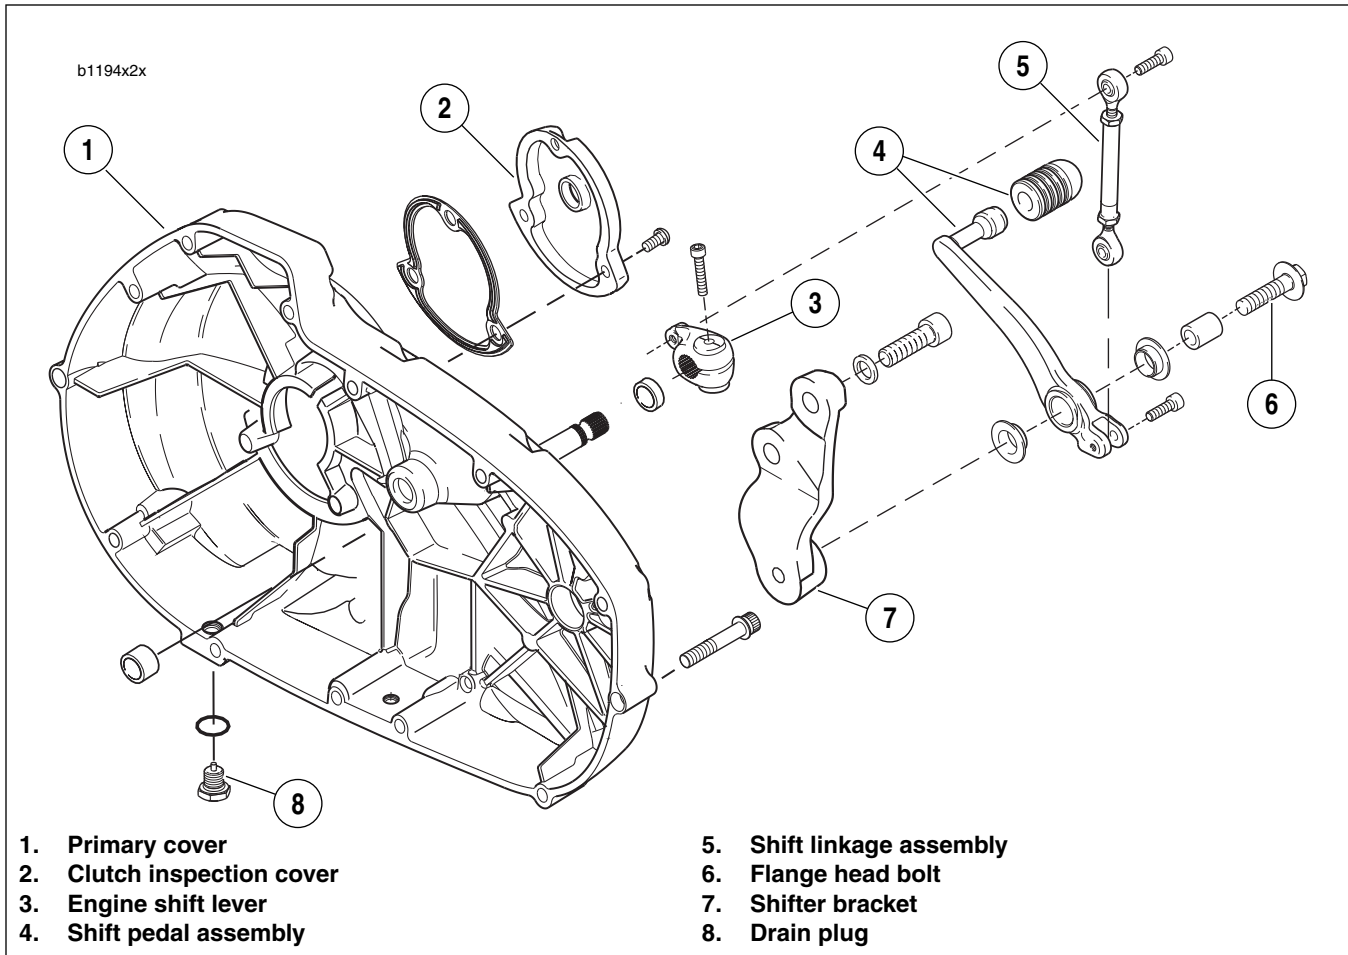

Figure 2-102. Shifter Linkage
13. See Figure 2-102. Remove clutch inspection cover (2).
- a. Remove flange bolt (6) from primary cover.
- b. Remove engine shift lever assembly (3). Do not scratch primary cover.
12. See Figure 2-102. Install clutch inspection cover (2) with three TORX screws with washers. Tighten screws in a crosswise pattern to 84-108 **in-lbs** (9.5-12.2 Nm).